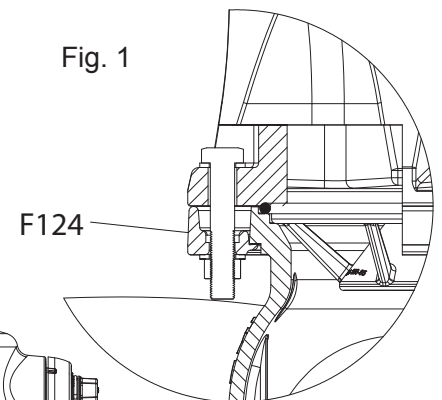
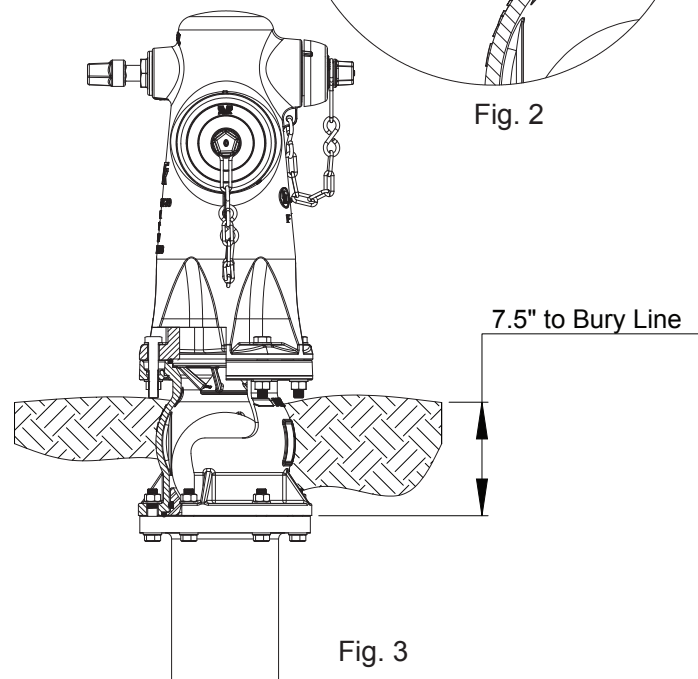

Fig. 2
Fig. 3
7. Carefully mount the Wet barrel assembly onto the FlowGuard II assembly with the Breakable Flange (F124) and mount with the mounting hardware as shown in Fig. 2 and Fig. 3.